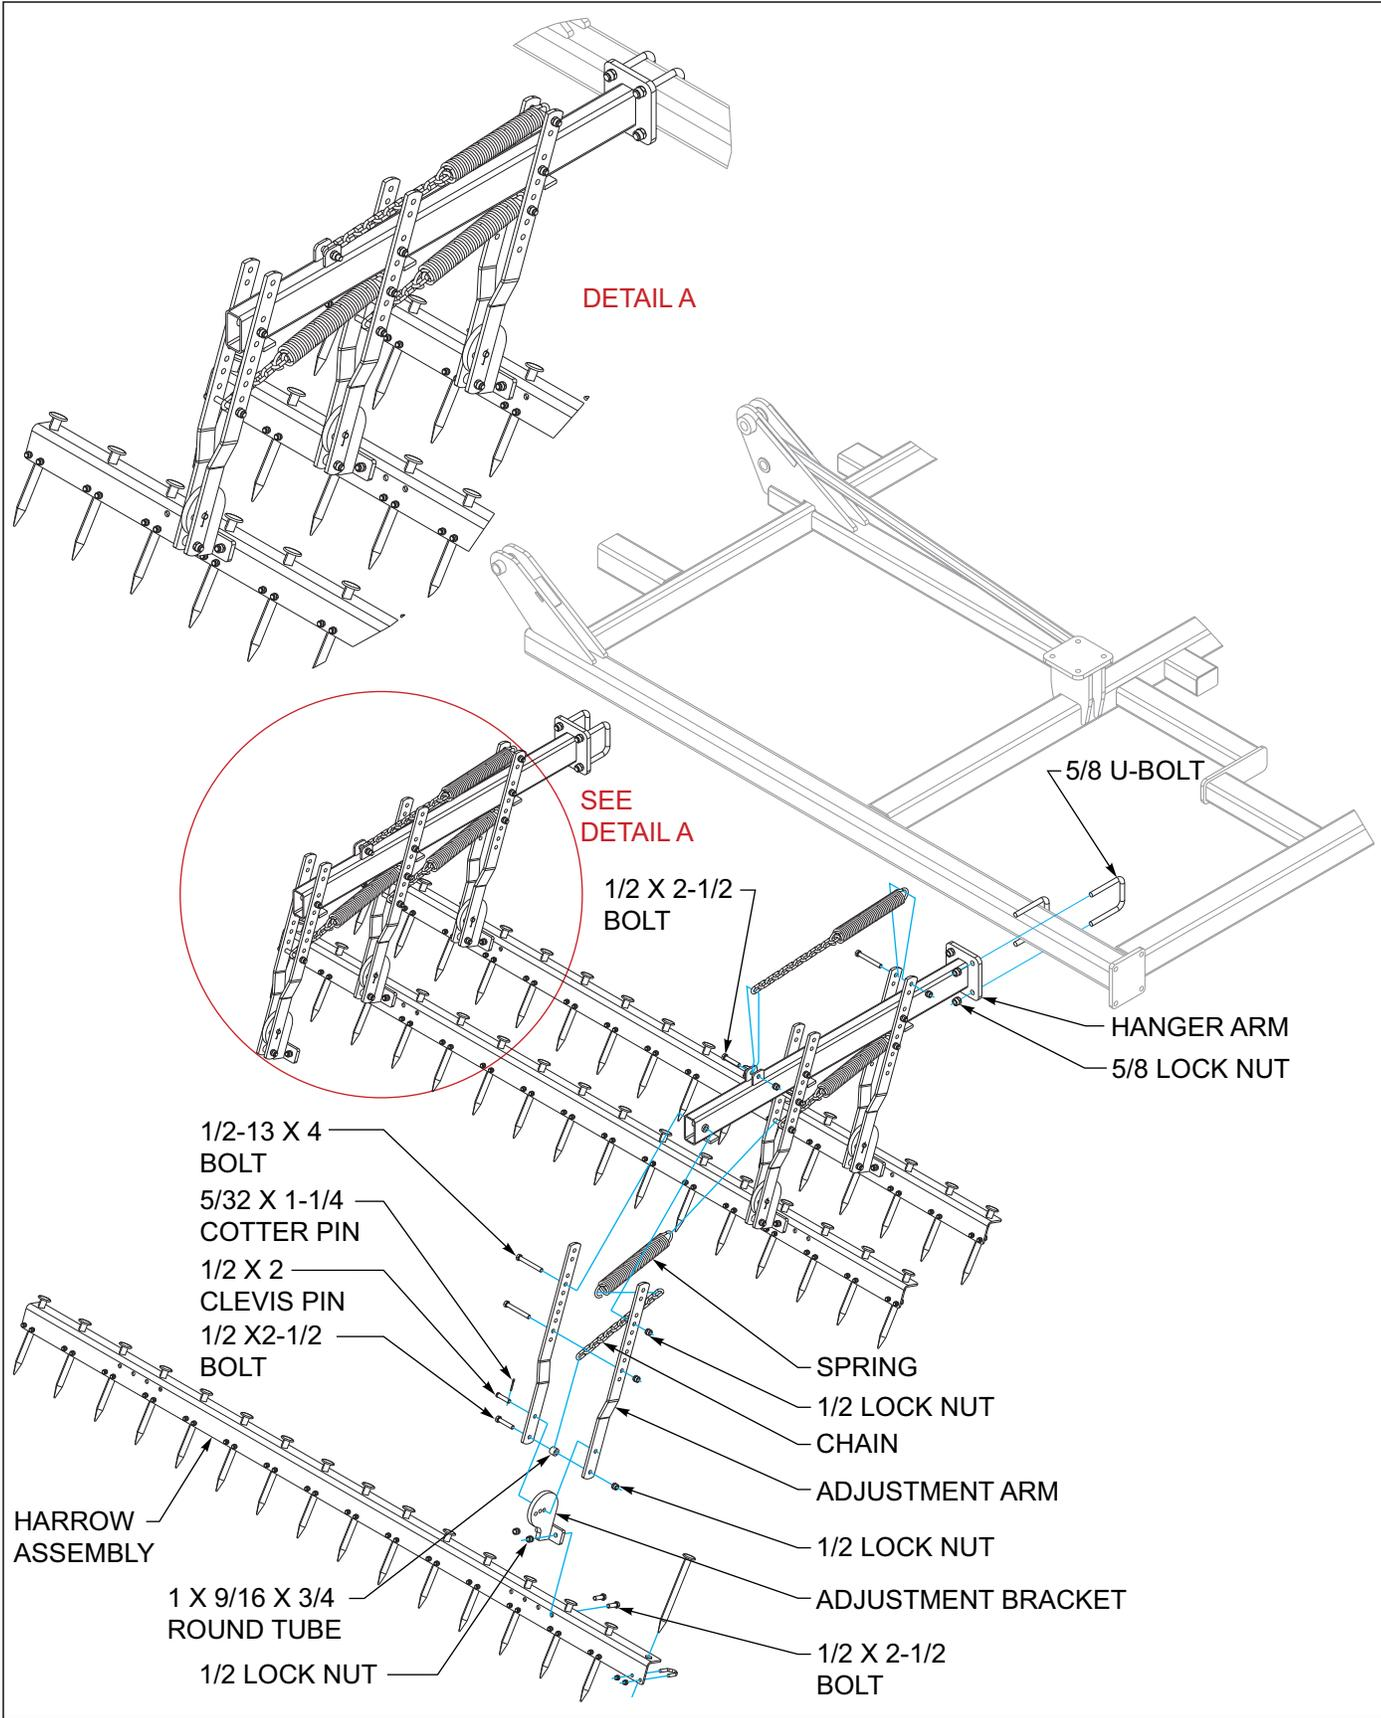

Figure 3-29: Harrow Assembly Installation
1. Install harrow hanger arms to rear of frame using u-bolts and 5/8 lock nuts See Figures 3-29 and See Figures 2-18 through 2-23 for location on frame.
4. Install harrow springs and chains as shown in See Figure 3-29 using 1/2 x 4 bolts and hex 1/2 lock nuts. The top spring is anchored in the 1st hole from the top. Front lower *spring and rear lower* spring are anchored in the 7th hole from the top of the harrow arm. Upper chain is anchored through the enlarged link with a 1/2x 2-1/2 bolt and 1/2 lock nut and hooked on the spring in the 8th link from the bolt. Lower chains are anchored in the second from bottom harrow arm hole and hooked on the spring in the 4th link from the screw.